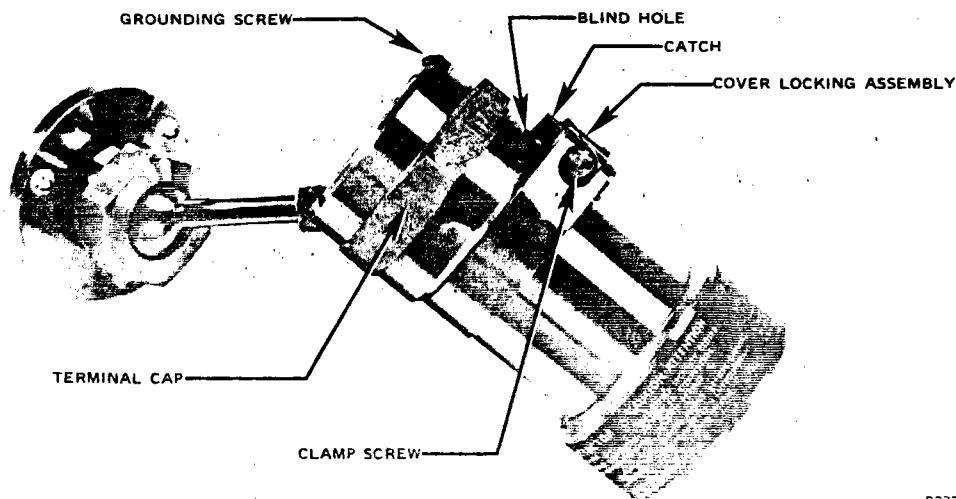

Figure 7-C7050 Detector with Cover Locking Assembly
7. Replace detector housing. If the detectors are equipped with cover locking devices, loosen the clamp sufficiently so that the "catch" can be seated in the "blind" hole provided on the terminal cap. (See Figure 7.) The clamp must then be fastened securely around the detector barrel by tightening the clamp with the proper tool. This locking feature is required for equipment approved by BASEEFA and P.T.B. The tool required for the BASEEFA clamp is 5/32-inch hexagonal (Allen) wrench. For the P.T.B. clamp, a triangular m4 (7 mm) wrench (Din 22417) must be used.